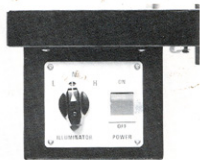

Fig. 26
- (2) Adjust brightness of the slit illumination.
At first, switch on the power switch④. Next the slit lamp is illuminated when the illumination control switch⑤ is set to L(4.5) N(6) or H(7.5) with the brightness of the illumination increasing in three steps, as the voltage is increased (as indicated by these figures). When the lamp is set to H, the lamp is overloaded considerably, with a consequent increase in brightness and a shortening of the service-life. Using the lamp at L means that the service-life of the lamp can be extended. The illumination control switch should be set to the lowest permissible setting. (See Fig. 26)